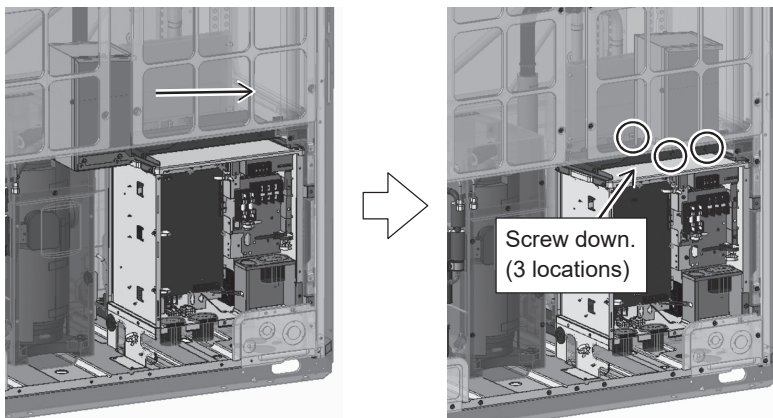

Figure 5
- (6) Lift the transformer box to the position as shown in the figure, move the box to the designated position, and screw it down. (3 screw as shown in Figure 5.)